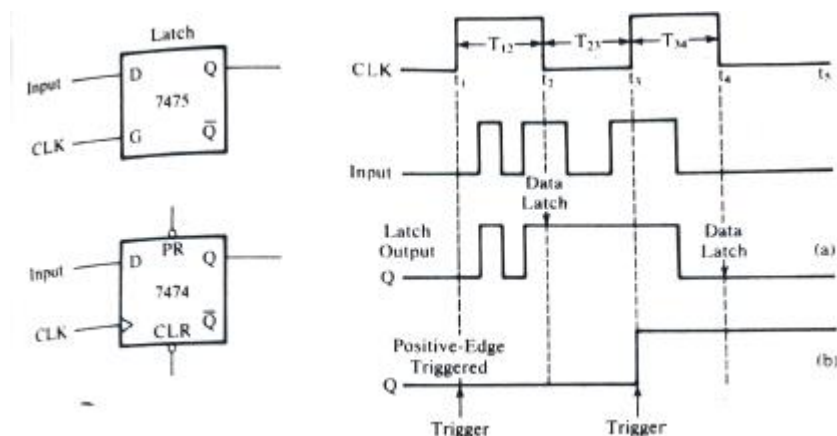

Fig 9
In its simplest form, a latch is a D flip-flop, as shown in Figure 9 it is also called a transparent latch. A typical example of a latch is the 7475 D flip-flop. In this latch, when the enable signal (G) is high, the output changes according to the input D. On the other hand, in a positive-edge-triggered flip-flop, the output changes with the positive edge of the clock. Figure shows the output of the 7474 positive edge-triggered flip-flop. At the first positive going clock (t), the input is low therefore, the output remains low until the next positive edge (1). There is no effect on the output at any other time. A latch is used commonly to interface output devices.